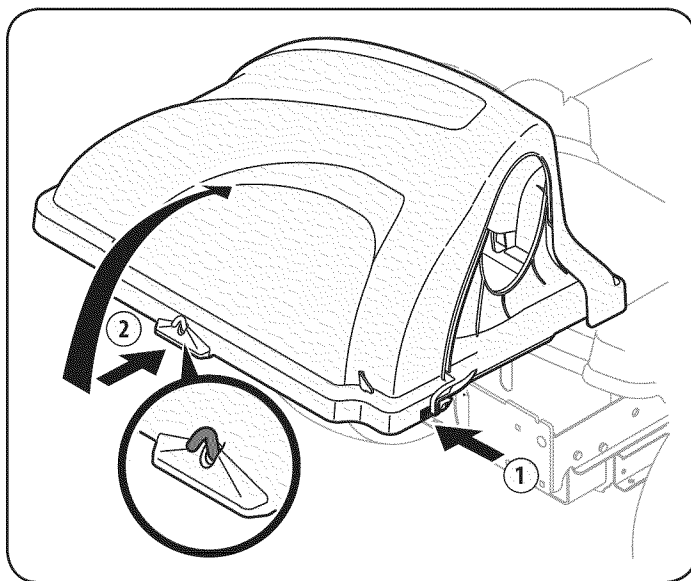

Figure 27
2. Open grass catcher cover by pushing in on the rear, right-side tab with your right-hand, as seen in 1 of Fig. 27, and lifting with your left-hand in the rear center, 2.